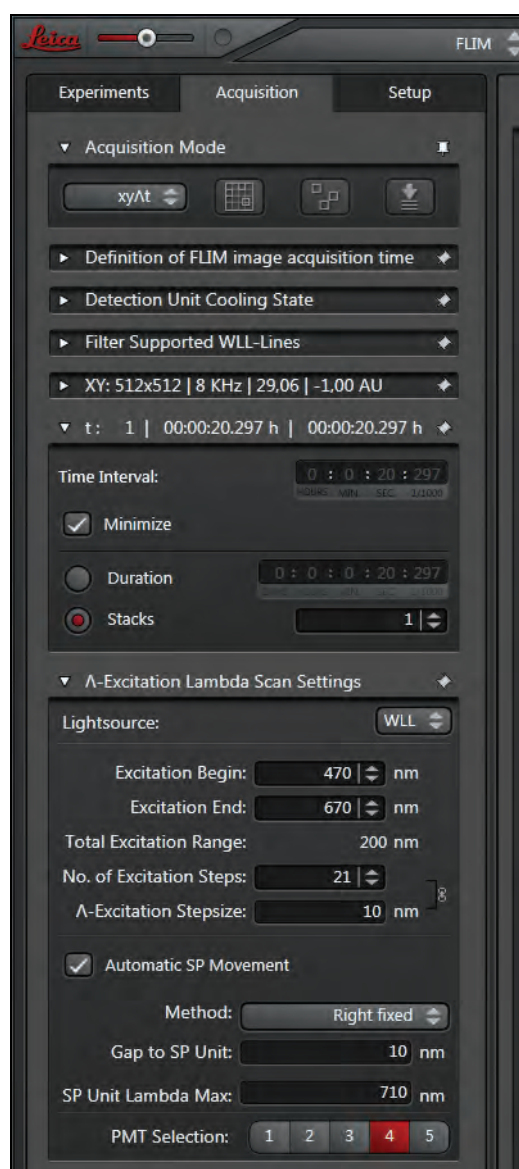

Figure 143: Defining a time series of $xz\lambda$ FLIM stacks
8. You can define a time series using the time series dialog (**Figure 143**). The following inputs are possible: